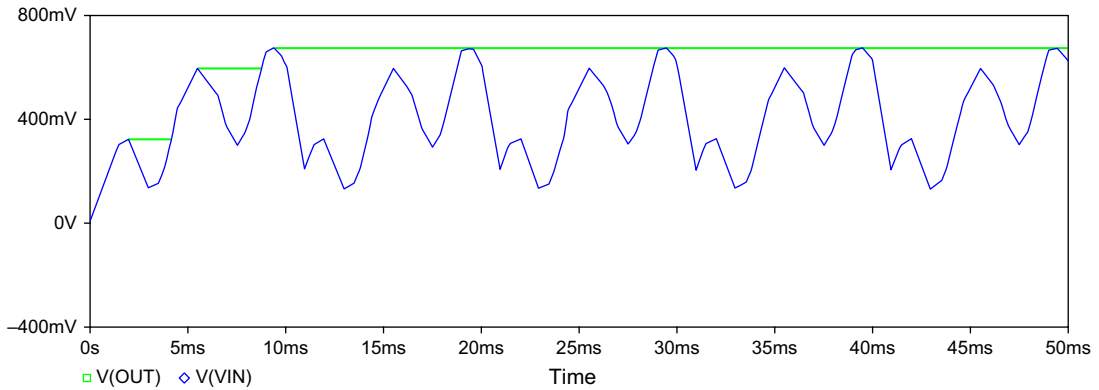

FIGURE 7.21
14. Edit the PSpice Simulation Profile, increase the simulation run to time to 50 ms and run the simulation. You should see the response as shown in Figure 7.21, where V_{in} is now periodic (repeats forever).